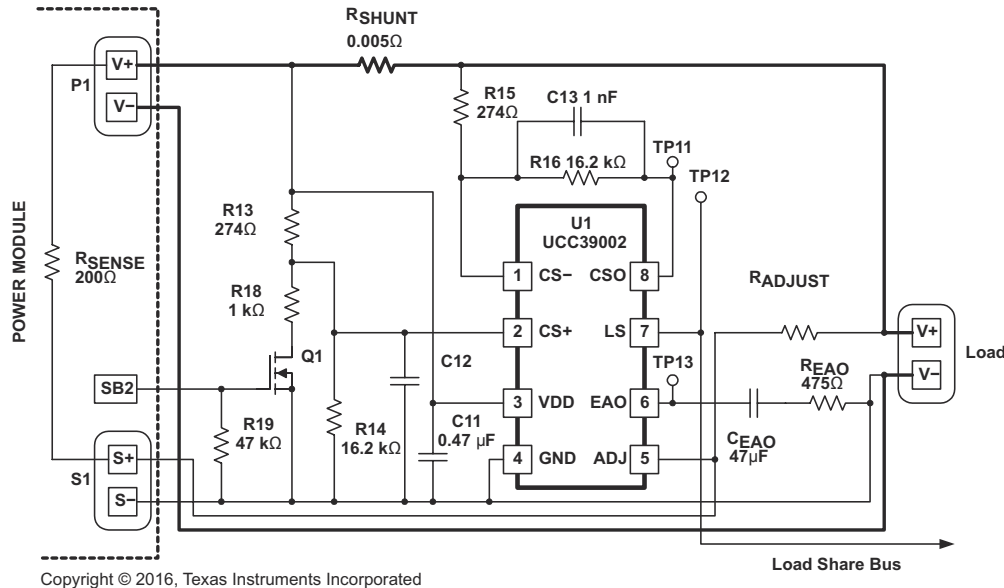

Figure 7-1. Typical High-Side Application for a Single Power Module
Figure 7-1 shows a typical high-side current-sense configuration for a single module which is repeated for each module to be paralleled. Direct connection of the VDD pin to the power module V_{OUT} rail (V+) is valid for V_{OUT} less than 13.5V.
Referring to Figure 7-1, the DC gain of the CSA is equal to $R16/R15$, and a high-frequency roll-off pole used for noise filtering is set by C13. These component values are repeated at R14, R13, and C12 on the CS+ pin of the differential amplifier, as shown.
where (referring to Figure 7-1)
- A_{CSA} is the DC gain of the Current-Sense Amplifier. (R15, R16 refer to Figure 7-1.)